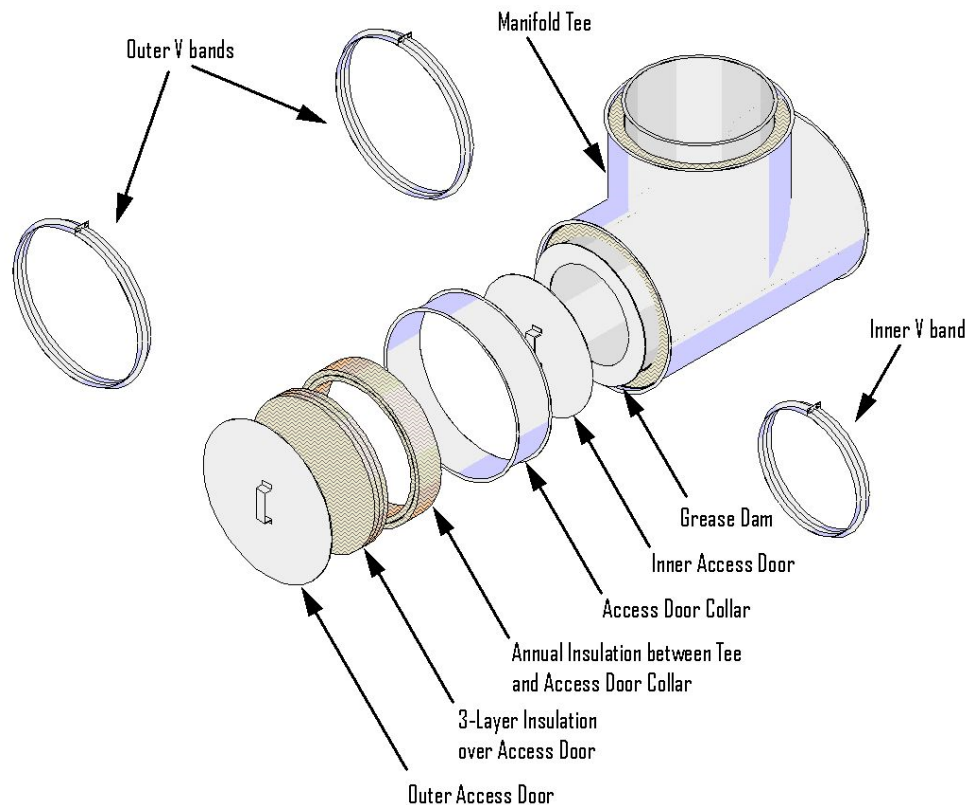

Figure 2. Access Door Assembly
B. ACCESS DOOR – When required, use the duct manufacturer’s manifold tee and access door (tee cap) assembly (see Figure 2). Apply a 1/4 in. continuous bead of sealant (Item 2A) to the inner flange of the tee on the side where access door is to be located. Center the supplied grease dam over the opening of the tee. Verify that the grease dam is sealed to the tee flange by applying pressure. Remove excess sealant (Item 2A). When the sealant (Item 2A) is dry attach the supplied inner access door using a V band (Item 2B). Tighten 1/4-20 hardware to 40-60 in.lbs. Install access door collar to manifold tee with V band (Item 2B) and tighten the 1/4-20 hardware to 40-60 in.lbs. Install joint insulation (Item 2C) in the annular space created between inner duct and the access door collar, using the same insulation type and number of layers as required for other joints detailed in Item 2. Over the access door, install three layers of the supplied, circular, pre-cut, nominal 1 in. thick insulation of the same type and density as used in the pre-fabricated grease duct (Item 1). Secure outer access door to outer access door collar using V band (Item 2B); tighten the 1/4-20 hardware to 40-60 in.lbs.